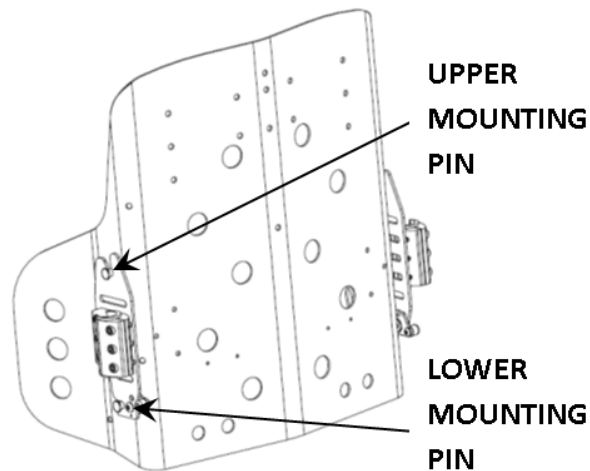

FIGURE 6
1. To Install the MAX Back onto the back mounting plates please refer to the Instructions and diagram (see Fig. 6 below).